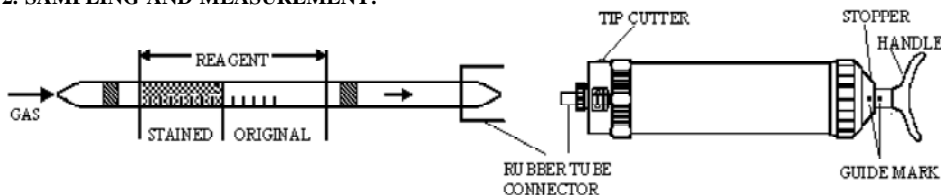

Fig.1
- ① Break both ends of detector tube.
- ② Insert the detector tube into aspirating pump securely as shown in Fig.1. (Arrow mark shall point to the pump.)
- ③ Align the guide marks on the shaft and stopper of the aspirating pump.
- ④ Pull the pump handle at full stroke until it locks and wait for 1 minute or until the completion of sampling is confirmed with the flow indicator of the pump (See descriptions about the flow indicator in the instructions of the pump).